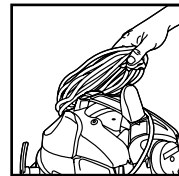

FIGURE 20
45. Grasp the entire cord behind the handle and pull above the rear cord wrap, pull cord towards the front of the vac until the cord becomes disconnected from the front cord wrap. **FIGURE 20.**